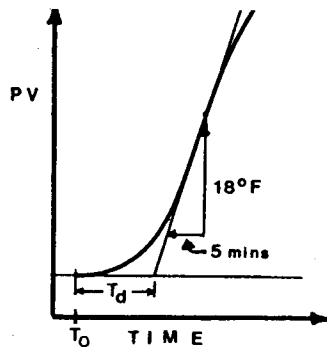

Figure 4-12. System Time Relay
3. Draw a line from the point of maximum slope back to the ambient temperature axis to obtain the lumped system time delay T_d (see Figure 4-12). The time delay may also be obtained by the equation:
The chart recording in Figure 4-12 was obtained by applying full power to an oven. The chart scales are $10^\circ\text{F}/\text{cm}$, and $5 \text{ min}/\text{cm}$. The controller range is $100 - 600^\circ\text{F}$, for a span of 500°F .